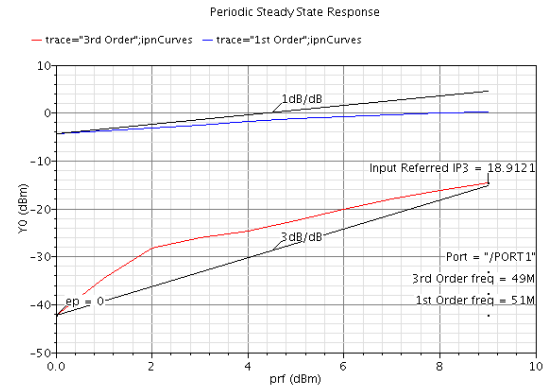

Fig. 8: IIP3 of the circuit.
4) *d*: For IIP3 simulation, two signals that are at 50 and 51 MHz are used, and their input power are swept from 0 to 10 dBm. Fig. 8 shows the IIP3 plot of the circuit, which is found to be about 18.91 dBm. Therefore, the circuit demonstrates very high linearity over a wide range of input power.